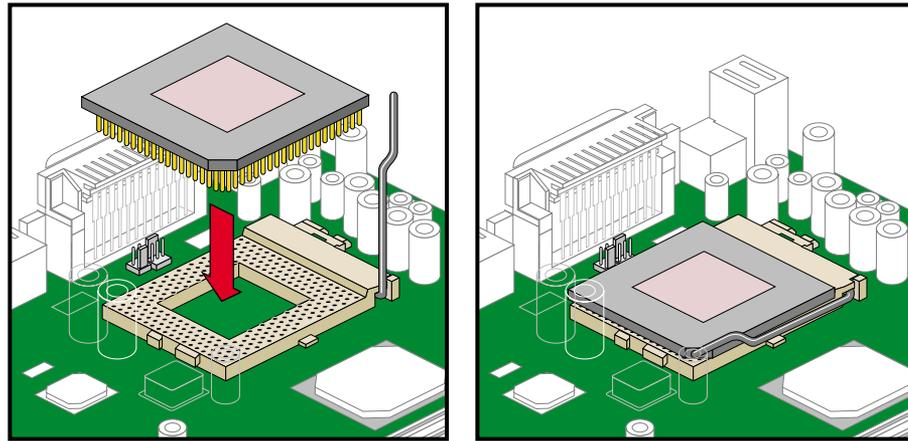

Figure 3-3 Installing a CPU
2. Insert the new CPU into the CPU socket. Make sure that pin 1 (indicated by a notched corner) of the CPU connects to hole 1 of the socket. Push down the socket lever to lock the new CPU into the socket, as shown in Figure 3-3.